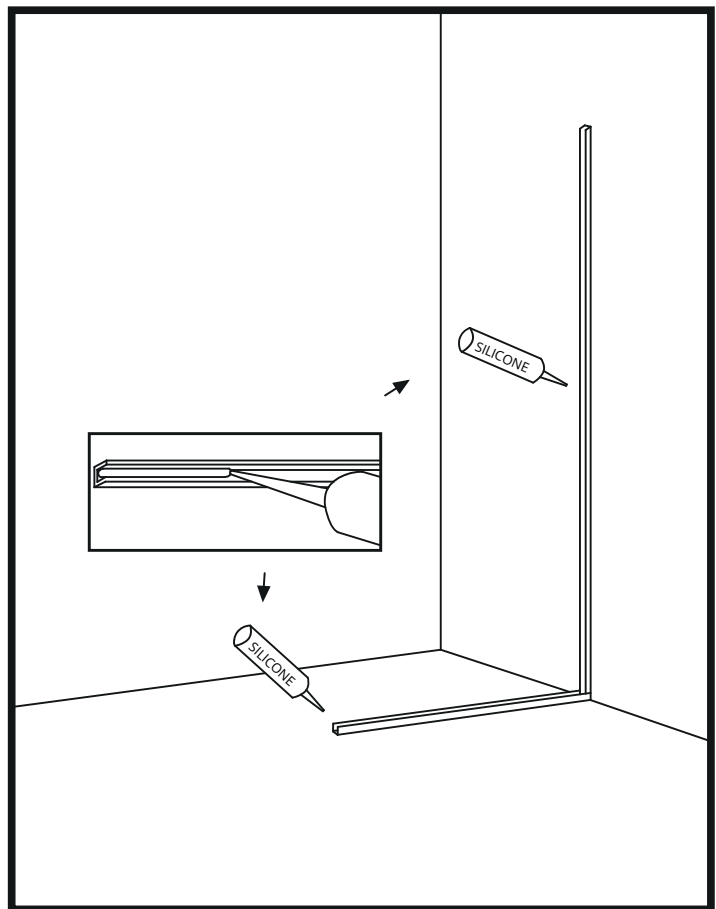

Figure 6
13. Fill the U-profiles on the wall and floor with an even silicone strip. (Figure 6)